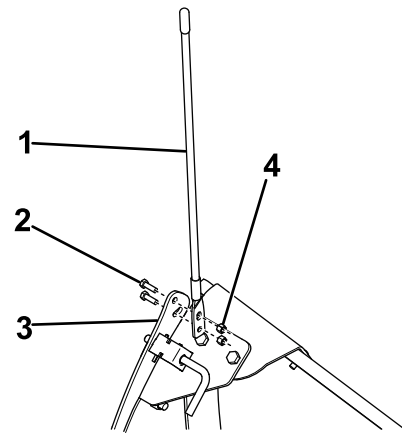

Figure 4
8. Attach a previously removed plow blade guide to the spring bracket (Figure 4), and torque the bolts to 19 N·m (14 ft-lb).